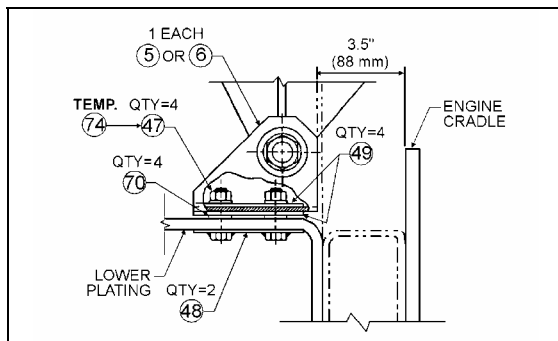

FIGURE 17: ANGLE SUPPORT 05014
1. Install both attachment assembly plates (P/N 051779) (48, Fig. 17) through lower plating and secure with four spring nuts (P/N 500666), (70, Fig. 17). Then install one spacer (P/N 050705), (49, Fig. 17) on each spring nut at both anchoring locations (Fig. 17).
2. Center seat assembly in the fan shroud using the horizontal displacement of the fan driving mechanism support. Center with the slots in the floor at anchoring angle support (on some vehicles only). Vertical displacement of the fan clutch is made possible by slots at the base of the fan clutch (on some vehicles only) or by shimming with additional spacers at anchoring locations. Temporarily secure assembly with two nuts (P/N 500709), (74, Fig. 17) at both anchoring locations.
(P/N 500709) (74, Fig. 17) with four nuts (P/N 500714) (47, Fig. 17) and tighten using a wrench.